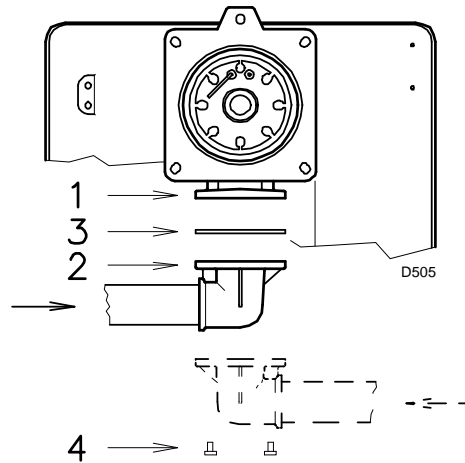

Fig. 26
The gas train can enter the burner from the right or left side, depending on which is the most convenient, see Fig. 26.
The gas train must be connected to the gas attachment 1)(Fig. 26), with the flange 2), the gasket 3) and the screws 4) supplied with the burner.
- Bleed the air from the piping of the gas train, connecting a plastic tube to the pressure test point 1)(Fig. 26) of the minimum gas pressure switch. Take the vent tube outside the building so you can notice the smell of gas.